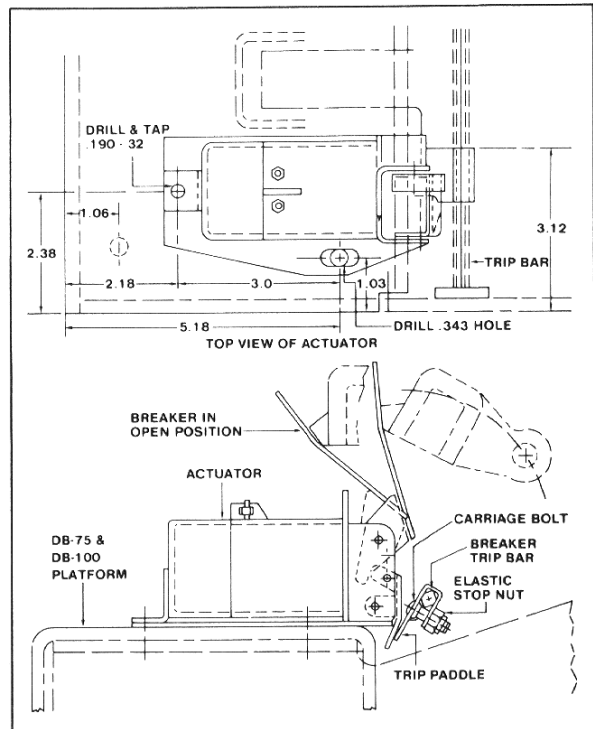
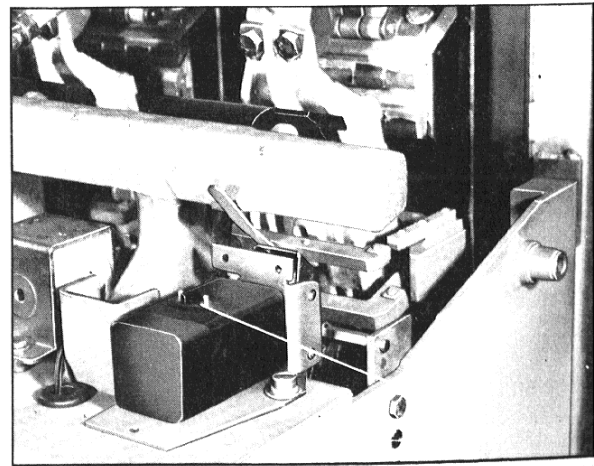

Fig. 5 Positioning of Actuator Relative to Trip Bar DB-75/100
Fig. 6 Actuator in Place and Readied for Drilling .190-32 Hole
2. Drill a .343 hole in platform base after you have properly positioned the actuator on the platform. See Fig. 5. Hole is approximately 5.18" from the front of the platform and 1.03" from the side of the platform. Secure the actuator with a .312-18 x 1.0 screw, nut and washers. See Fig. 6.
4. Drill and tap .190-32 hole in breaker platform 2.18 from front and 2.38 from right side of platform, Figs. 5 and 6, and temporarily secure actuator parallel to the platform with "L" bracket in place using .190-32 x .75 screw, nut and washers.
5. Connect the black wires to the actuator using .138-32 nut, lock and flat washers, Fig. 6 being certain to observe polarity marked on wires.